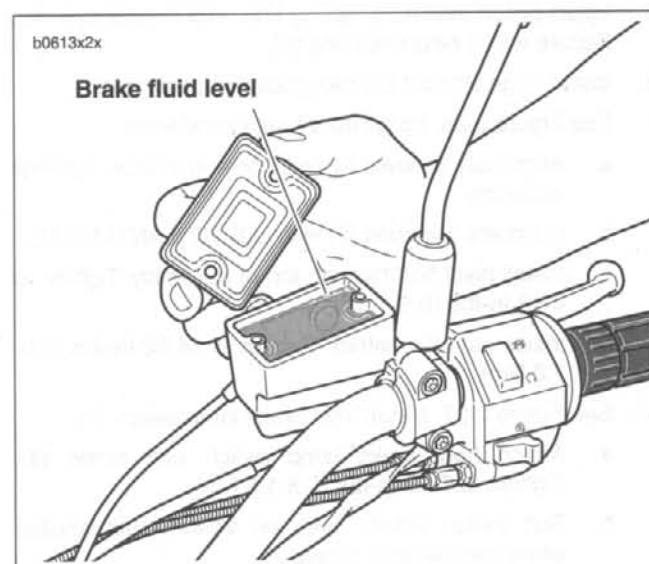

Figure 2-33. Brake Fluid Level
6. See Figure 2-33. With the master cylinder in a level position, add D.O.T. 5 SILICONE HYDRAULIC BRAKE FLUID. Bring fluid level to within 1/8 in. (3.2 mm) of molded boss inside front master cylinder reservoir.